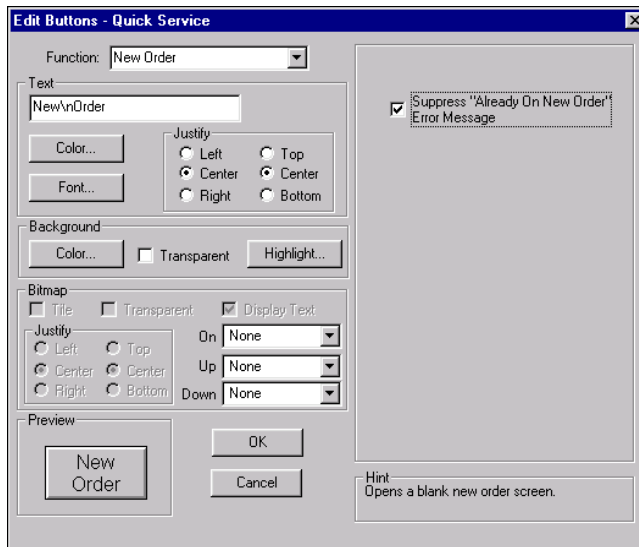

Figure 5-86 New Order Button Function
1. Select **New Order** from the **Function** drop-down list. An additional option displays, as shown in Figure 5-86: